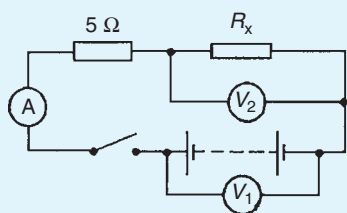

Figure 5.10
3. When the switch in the circuit in Fig. 5.10 is closed the reading on voltmeter 1 is 30 V and that on voltmeter 2 is 10 V. Determine the reading on the ammeter and the value of resistor R_x [4 A, 2.5 Ω]